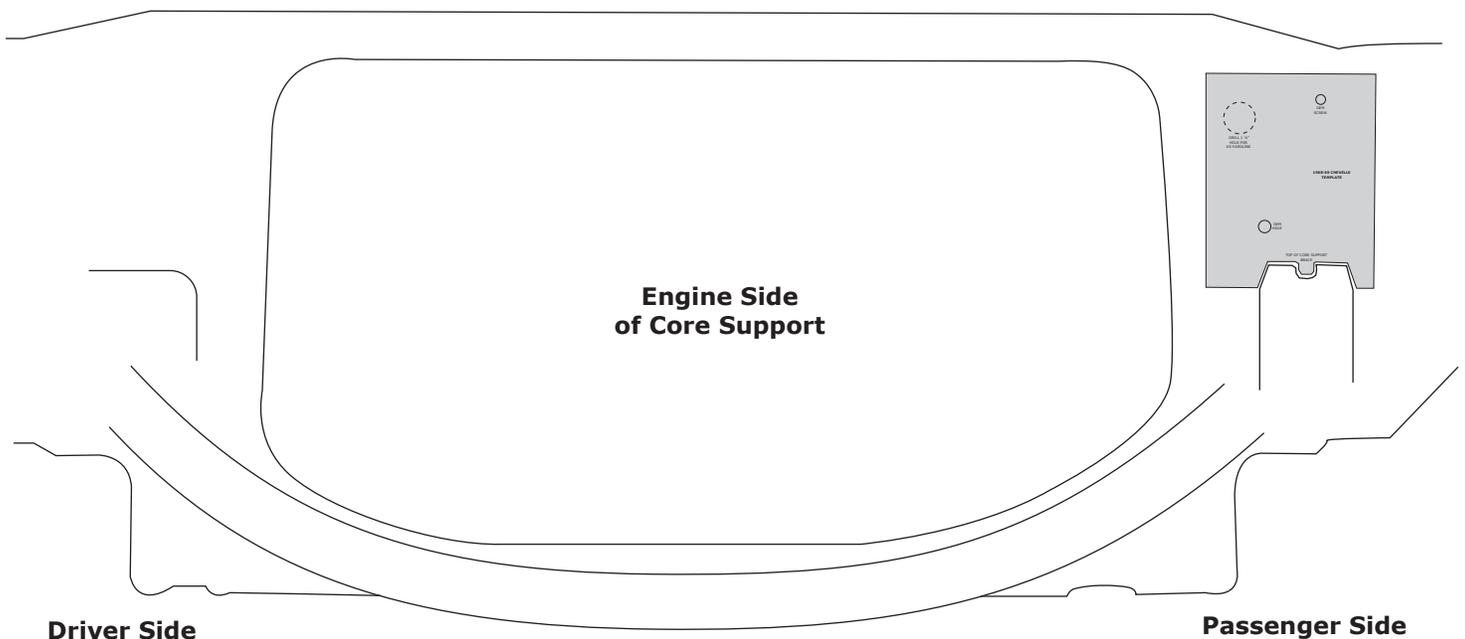

Figure 2
1. Cut out the template provided on Page 14. Place the template on the engine side of the core support as shown in Figure 2, below.